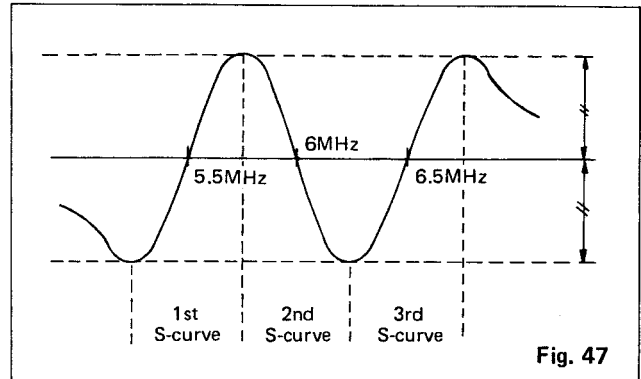

Fig. 47
2. Increase the sweep generator output to obtain three S-curves as illustrated in Fig. 47.